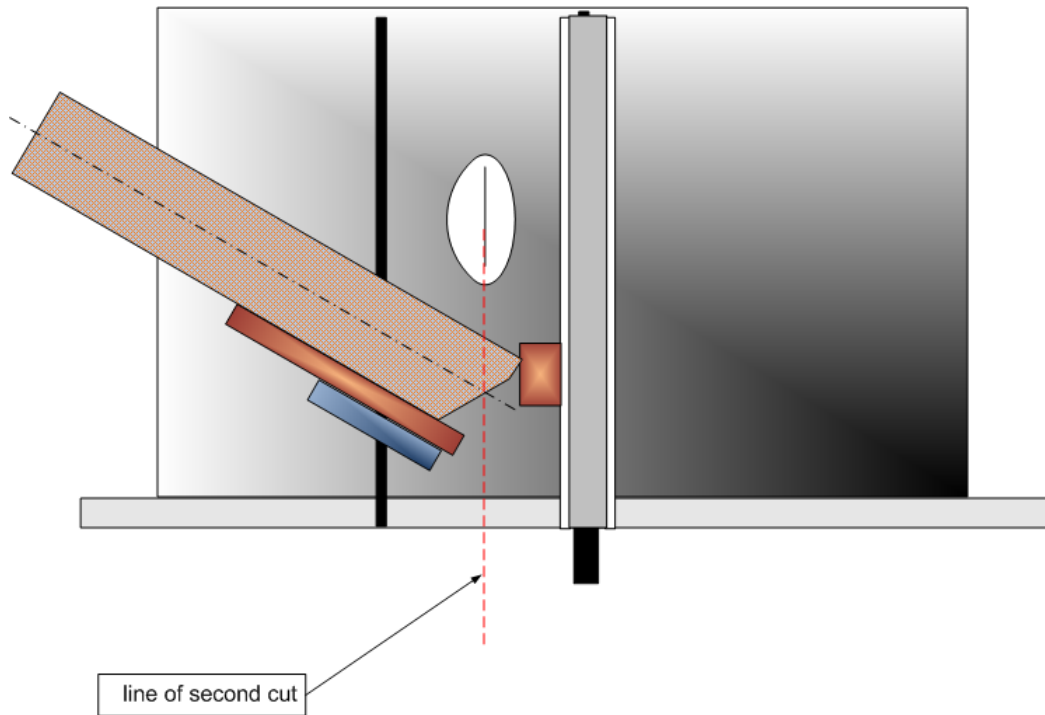

Figure 6. Setup For Second Cut
Step 4. Now flip the stock over, and put it in place for the second cut, as shown in Fig. 6.